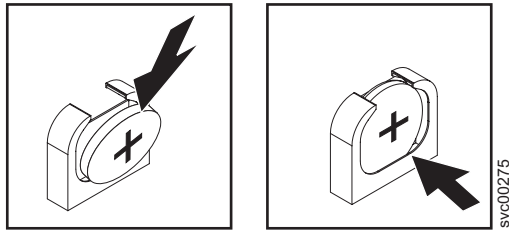

Figure 147. SAN Volume Controller 2145-8G4 CMOS battery holder
- b. Press the battery down into the socket until it clicks into place. Make sure that the battery clip holds the battery securely, as shown in Figure 147 on page 139.